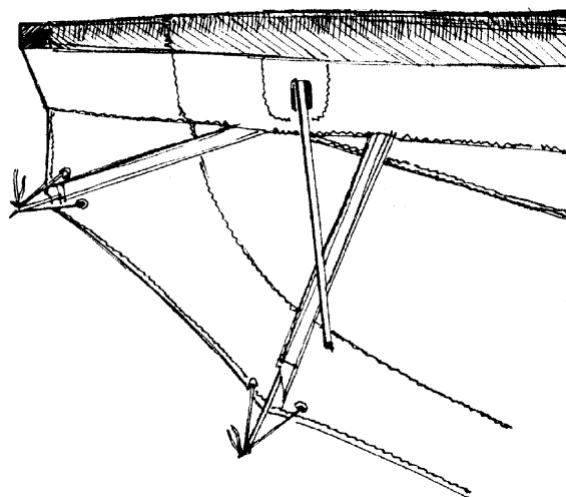

Fig.31
2.2.13. Insert washout tips into the corresponding holes in the leading edge tubes N4 (Fig. 31).